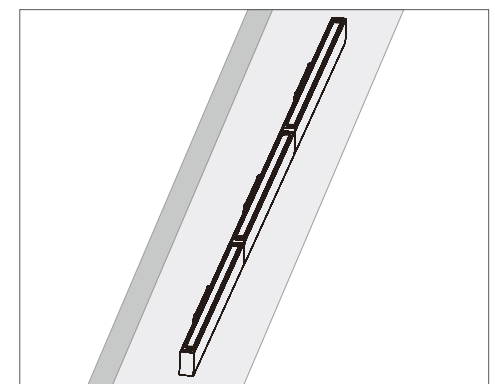

FIGURE 2-9
- 8) Installation is complete. (Figure 2-9)